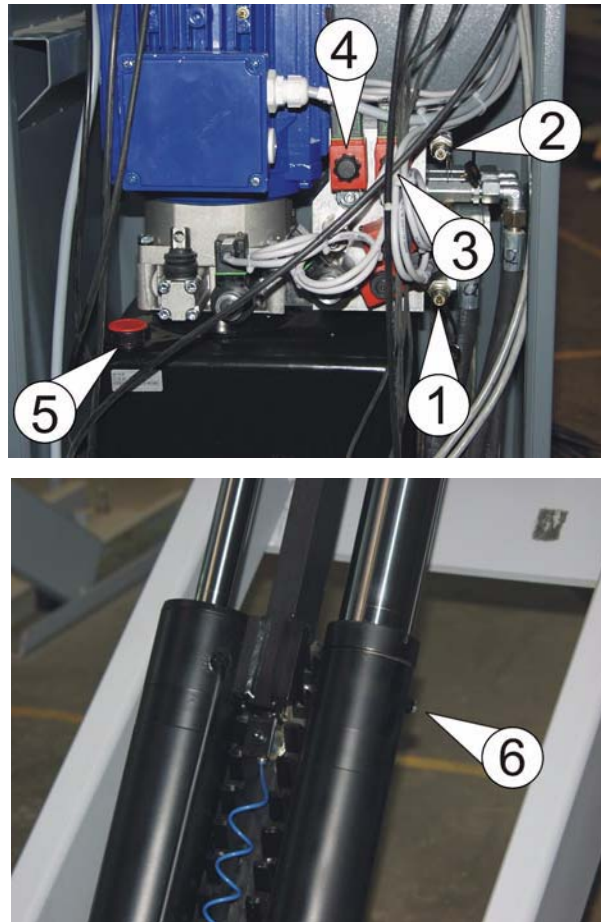

Fig. 9-3 Hydraulic
- ▶ Open valves 1 and 2 (Fig. 9-3, page 33) by four revolutions.